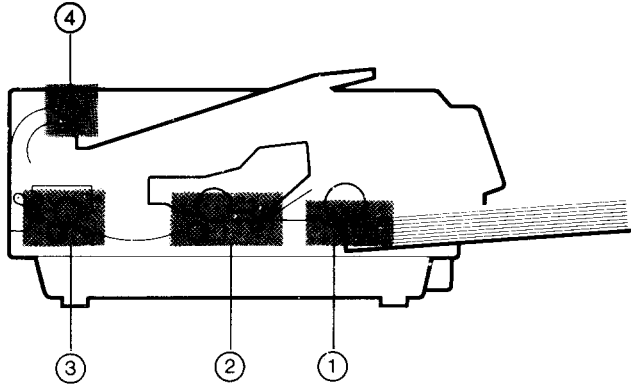

Fig. 10-1
As paper travels from the cassette through the printing area and is ejected, it can jam in one of four places: (1) as it leaves the cassette, (2) within the printing area, (3) near the fixing assembly, and (4) where the paper is ejected (Fig 10-1).